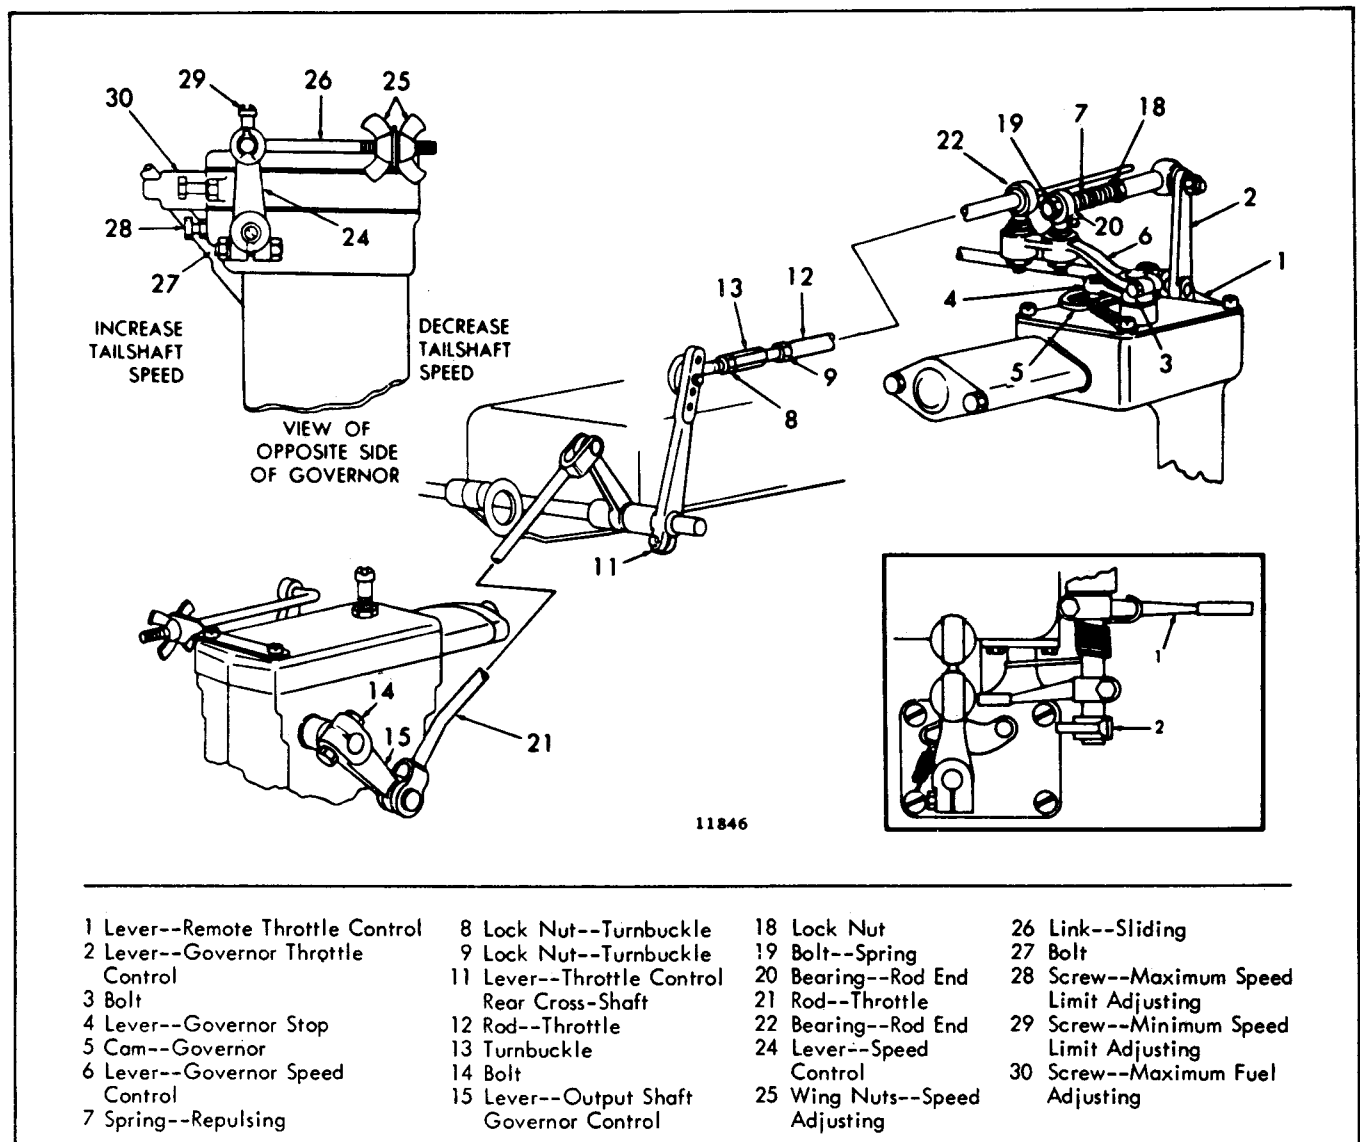

Fig. 2 - Hydraulic Output Shaft Governor and Linkage (Type B)
### Adjustments (Type B - Fig. 2)
1. Place the remote throttle control lever (1), Fig. 2, in the maximum speed position.
2. Move the governor speed control lever (6) and governor stop lever (4) into the "idle" notch in the governor cam (5). The repulsing spring (7) should be fully compressed when the stop lever reaches the "idle" notch of the governor cam.